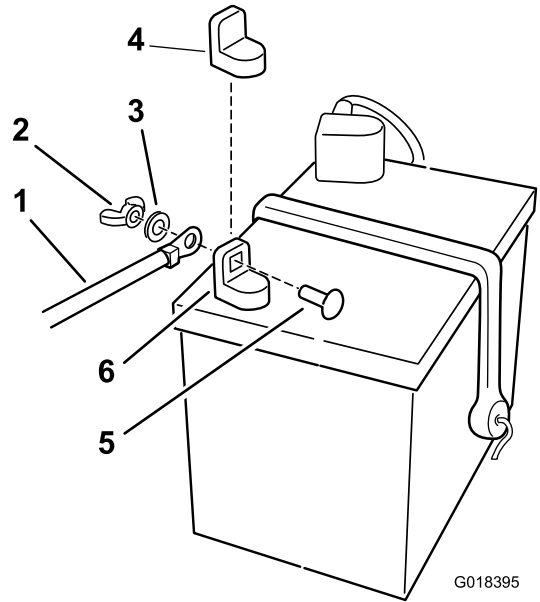

Figure 4
- Remove the fasteners on the negative battery cable, and use them to secure the negative battery cable to the negative battery post (Figure 4).